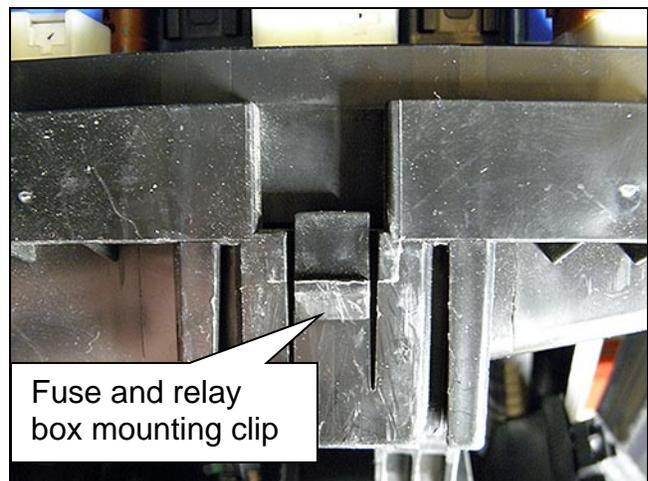

Figure 6
- b. Unclip the back of the fuse and relay box from the IPDM (Figure 6).